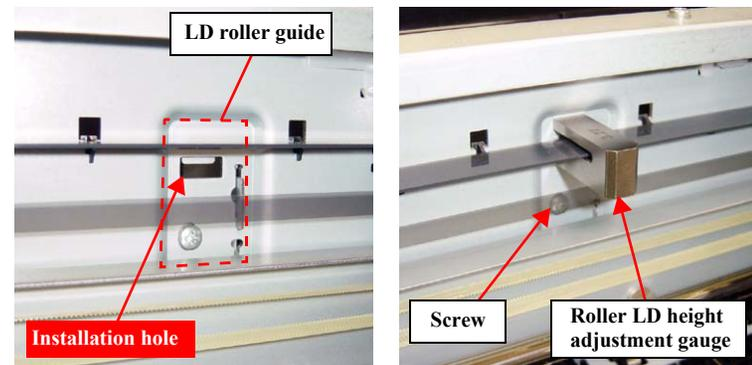

Figure 5-7. Setting the Roller LD Height Adjustment Gauge
5. Put the roller LD height adjustment gauge into the hole shown in Figure 5-7.